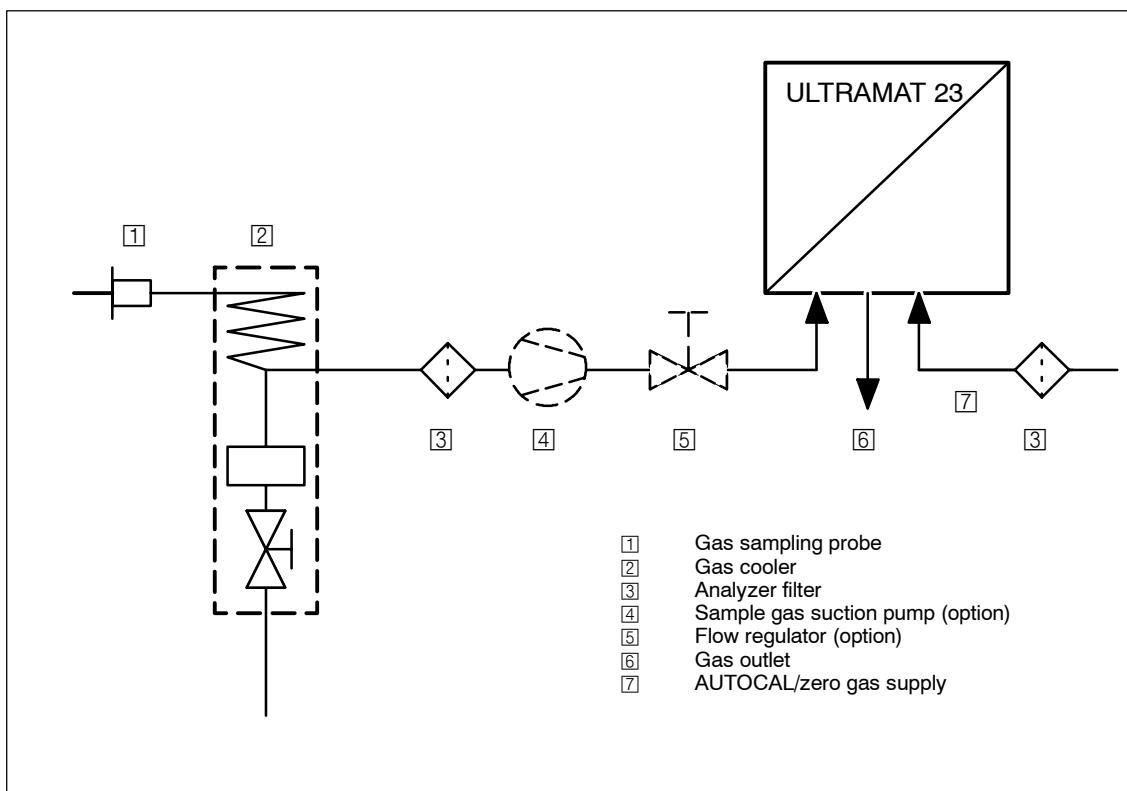

Fig. 2-1      Gas conditioning
- an external gas suction pump (with sample gas lines > 20 m) (see Fig. 2.1).